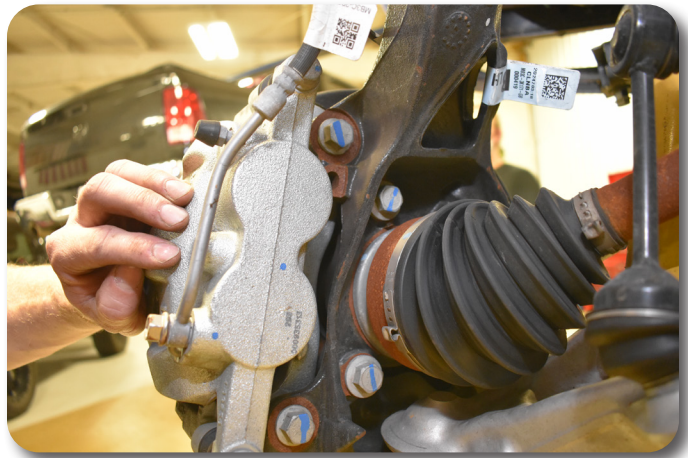

Figure 14
19. With the strut installed, reconnect the knuckle to the upper ball joint. Replace with factory hardware. While connecting the upper ball joint, be sure that the CV shaft properly aligns into the hub **Figure 14**. Torque the upper ball joint nut to 46 ft-lbs.